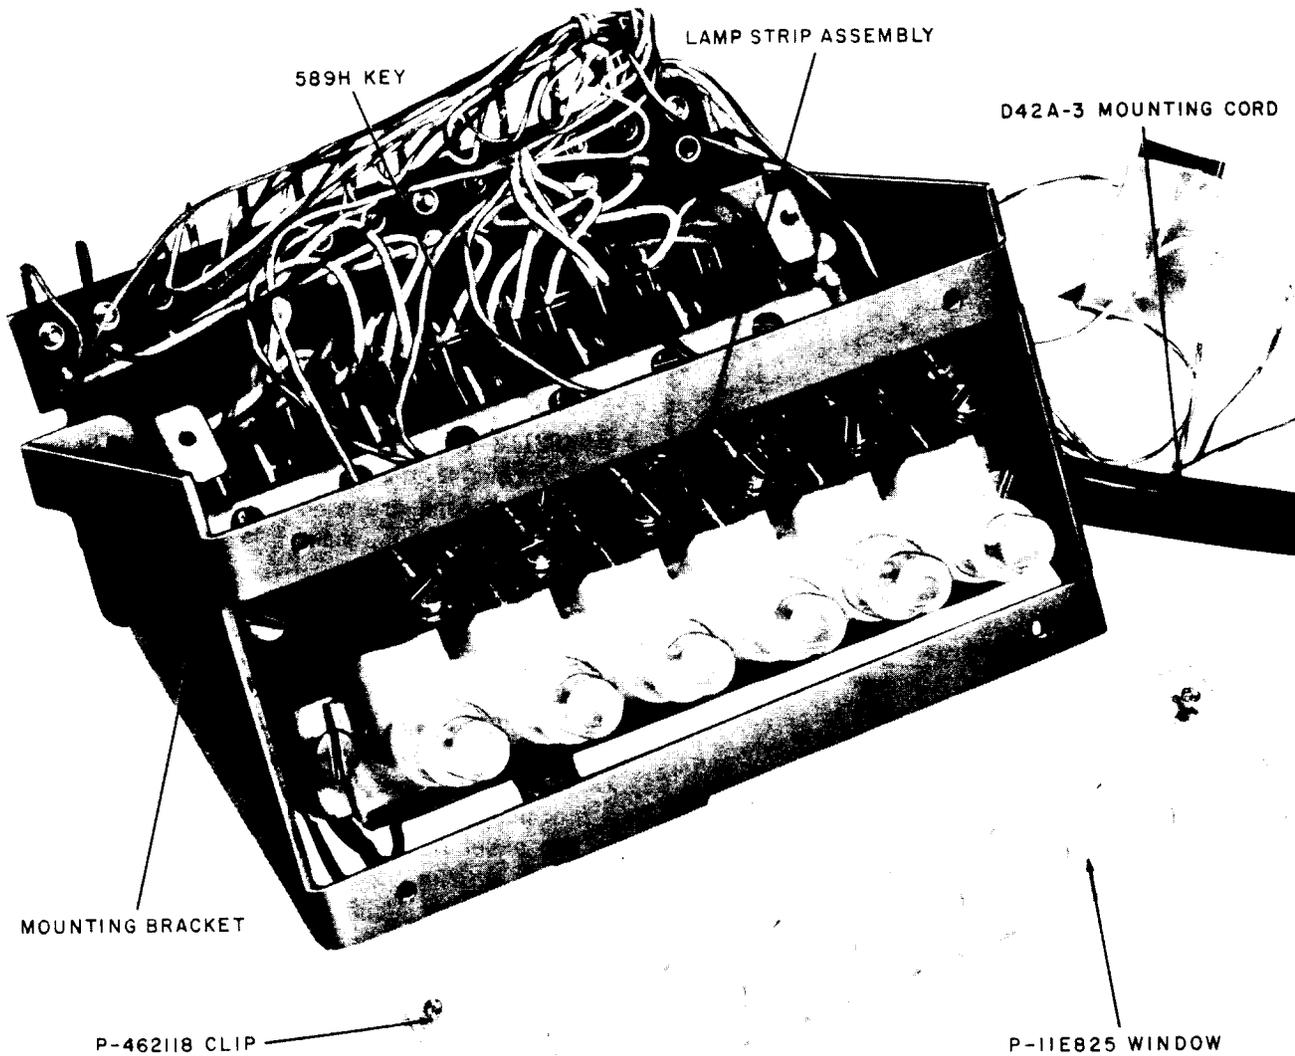

Fig. 6—611A Key
2.17 The 611A key (Fig. 6) consists of a modified 589H key (five pickups and hold), a lamp strip assembly equipped with five 51A lamps, a D42A-3 mounting cord, and a bracket for mounting the assembly. A clear plastic window, having six holes through which the buttons of the key protrude, is furnished to hold a standard designation strip. Two retaining clips are provided to secure the window to the mounting surface. This key assembly is intended for use with 1A, 1A1, or 1A2 Key